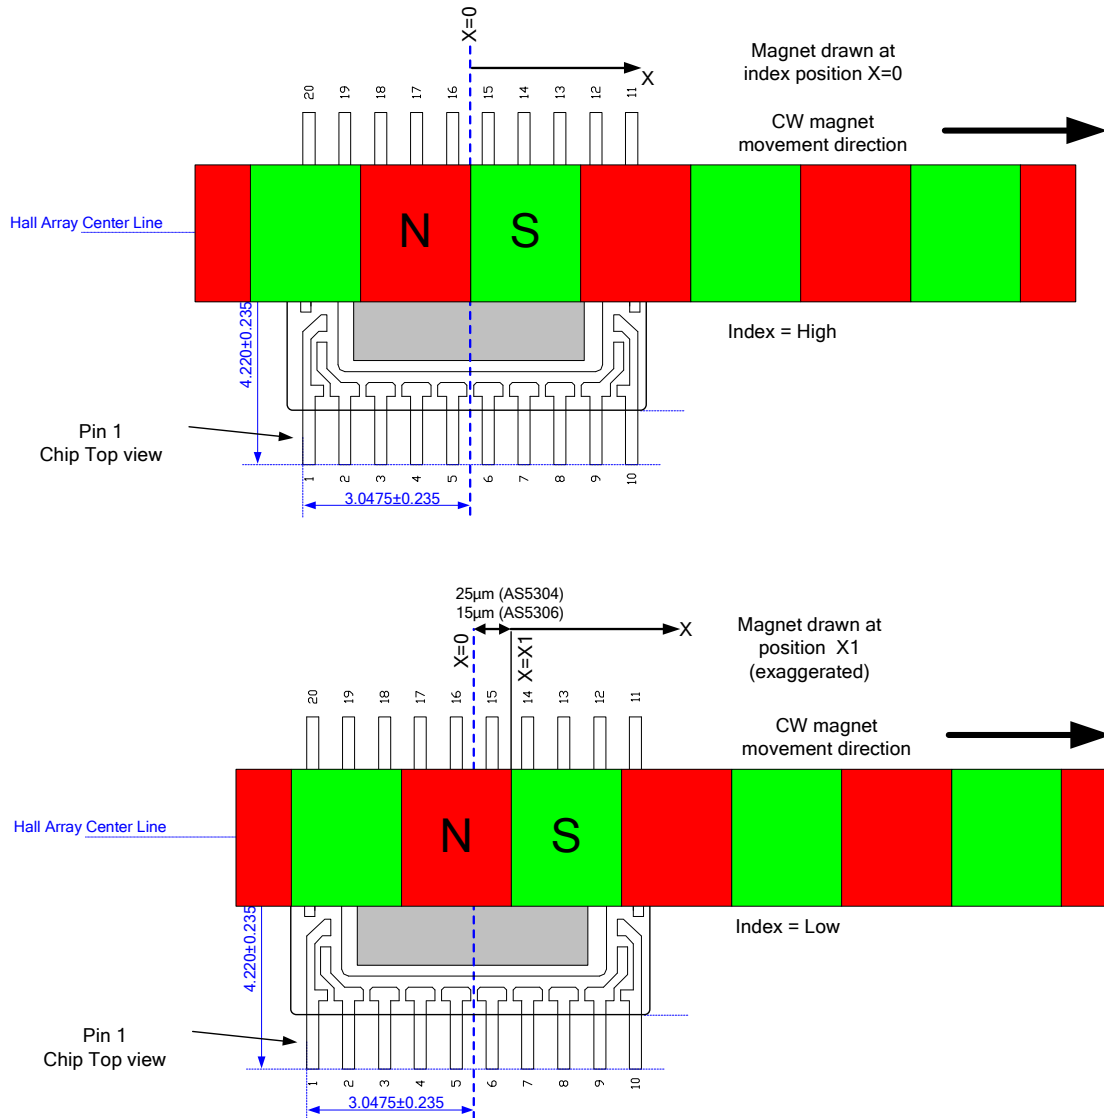

Figure 7: Magnet placement for index pulse generation
The Index output is switched to Index = high, when a magnet is placed over the Hall array as shown in Figure 7, top graph: the north pole of the magnet is placed over the left side of the IC (top view, pin#1 at bottom left) and the south pole is placed over the right side of the IC.
The index output will switch back to Index = low, when the magnet is moved by one LSB from position  $X=0$  to  $X=X1$ , as shown in Figure 7, bottom graph. One LSB is 25µm for AS5304 and 15µm for AS5306.
*Note: Since the small step size of 1 LSB is hardly recognizable in a correctly scaled graph it is shown as an exaggerated step in the bottom graph of Figure 7.*